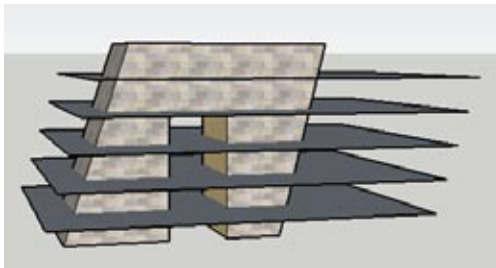

Figure 6-35
5. Make several vertical copies of the group, from bottom to top (Figure 6-35). Erase the groups at the very bottom and the very top.